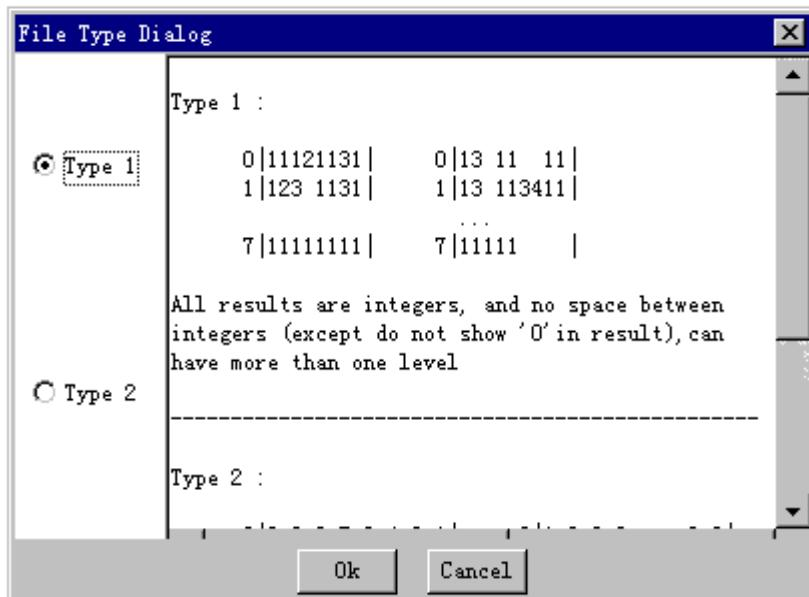

Figure 367: The File Type Dialog Box
- Click the “Select the file type” button, a dialog will be shown like Figure 367. Select “Type 1” or “Type 2” according to the file type, and click “OK” button.